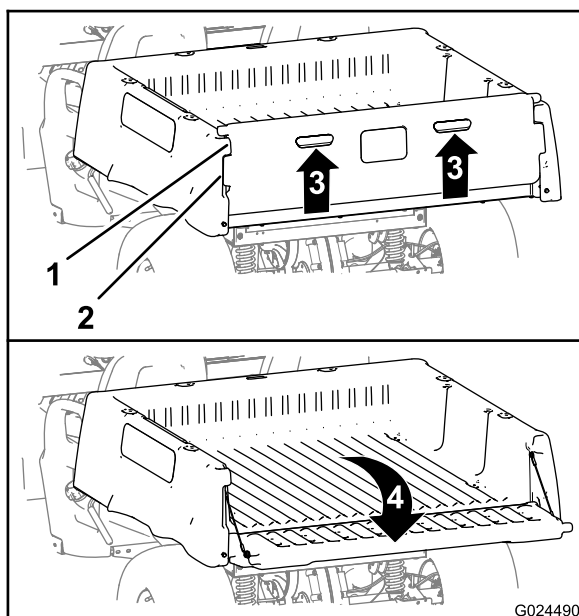

Figure 20
2. Lift up on the finger pulls at the back panel of the tailgate (Figure 20).
3. Align the lock flanges of the tailgate with the openings between the tailgate flanges of the cargo box (Figure 20).
4. Rotate the tail gate rearward and down (Figure 20).
6. Rotate the tailgate up and forward until the lock flanges of the tailgate are flush with the tailgate pocket in the cargo box (Figure 20).
7. Lower the tailgate until it is seated in the back of the cargo box (Figure 20).